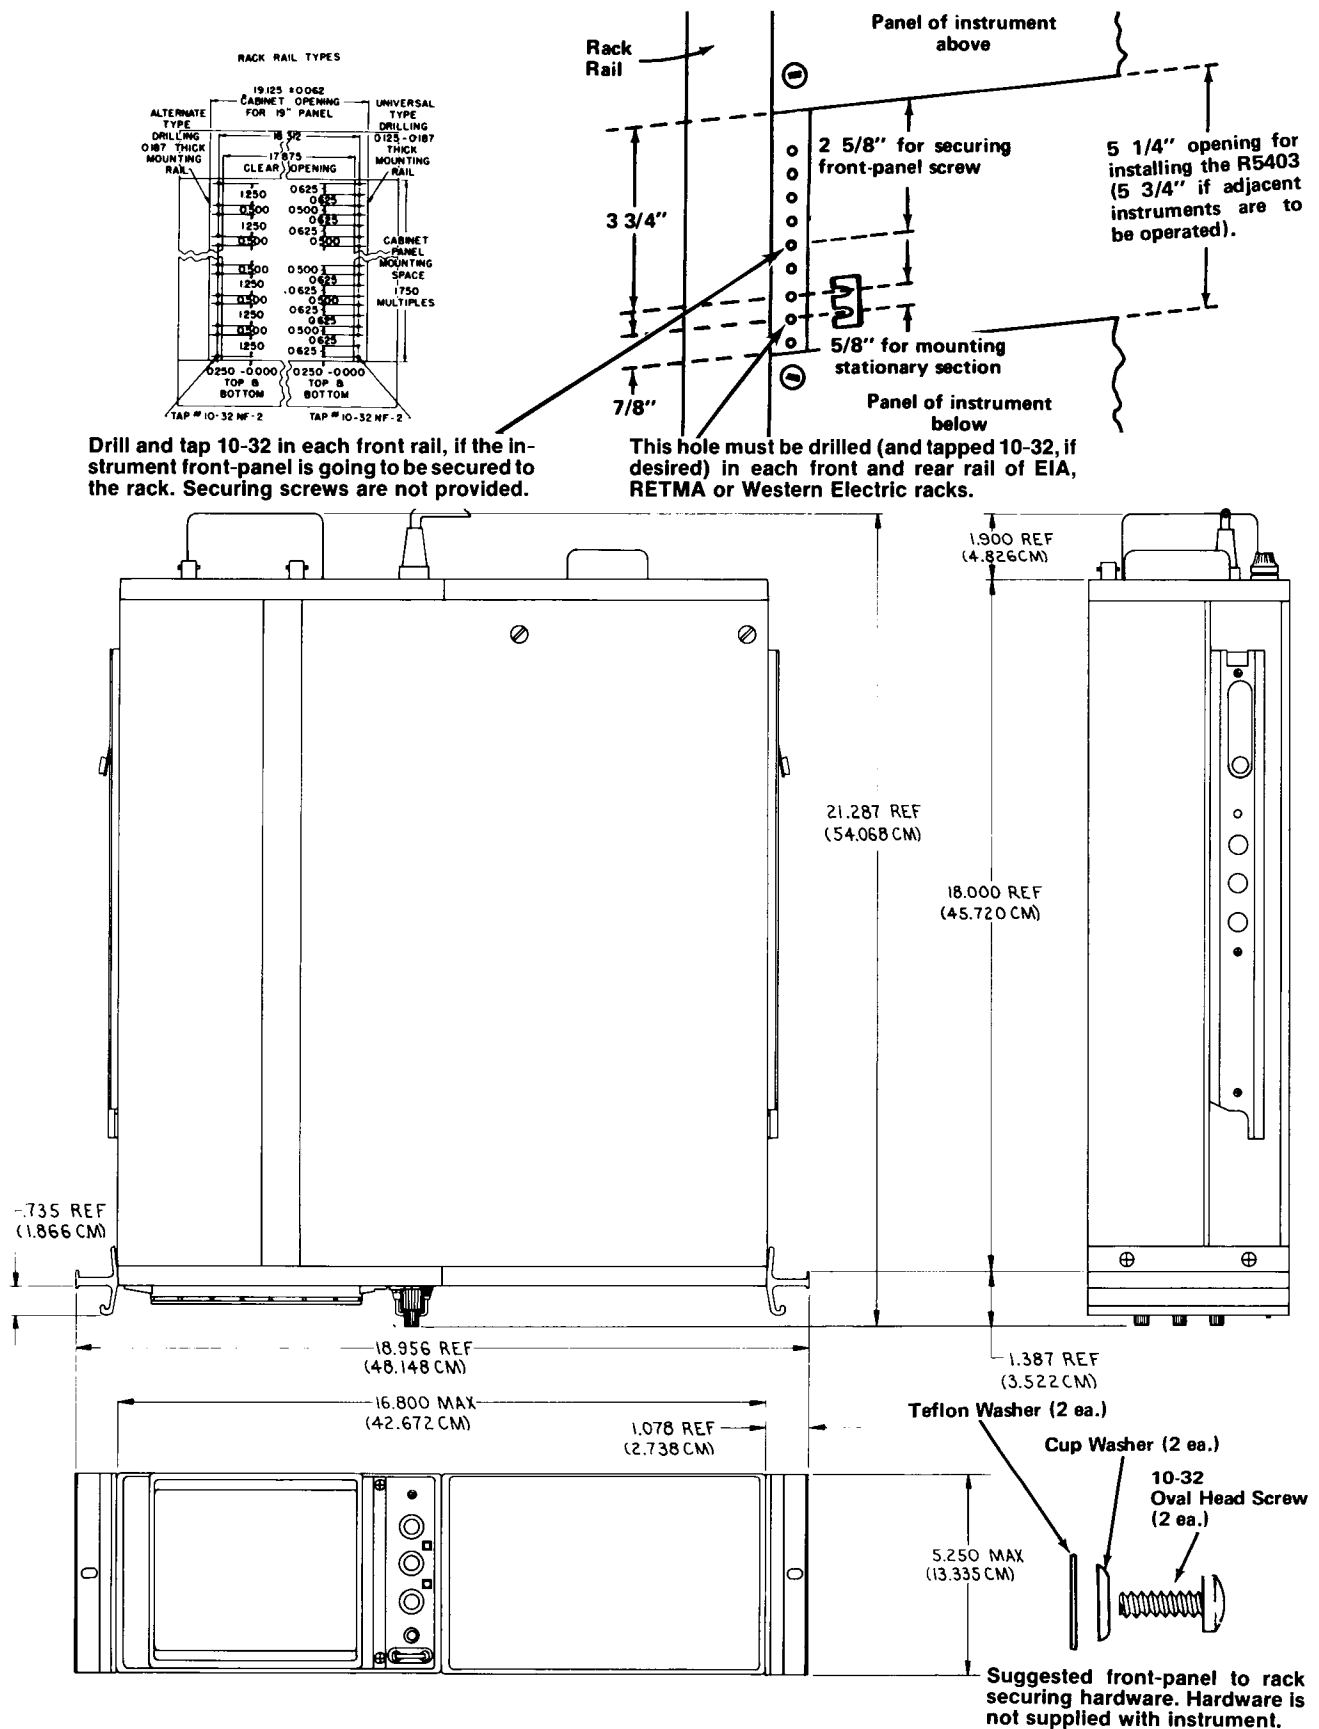

Fig. 0-3. Dimensional diagram.
1. To mount the instrument directly above or below another instrument in a cabinet rack, select the appropriate holes in the front rack rails for the stationary sections, using Fig. 0-3 as a guide.
To secure the instrument front-panel to the rack, the rack must either have universal hole spacing or a hole must be drilled and tapped for a 10-32 screw, see Fig. 0-3. Using the hardware (not furnished) indicated in Fig. 0-3, secure the R5443 to the front rails of the track.